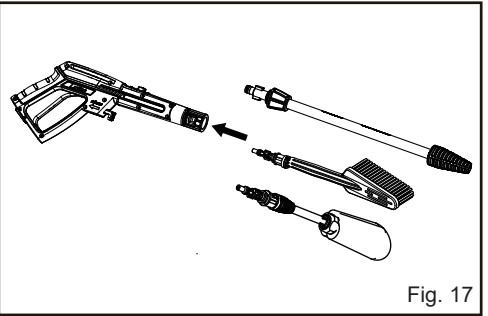

Fig. 17
- Align and insert the desired accessory into the spray gun handle. Push and turn the accessory clockwise until the two parts are completely joined. When the two parts are joined properly, you cannot separate them by pulling straight out on the spray wand. After that push the lock button forward (Fig. 17).